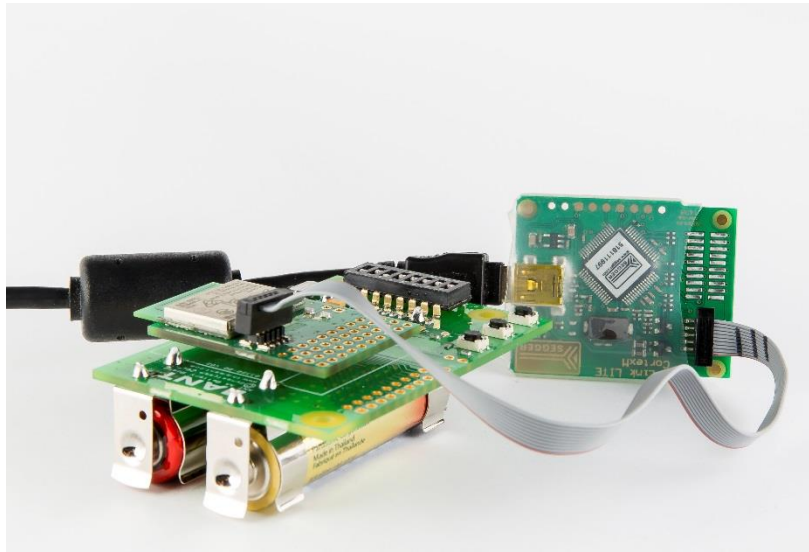

Figure 3. Module Programming Setup
3. Connect the Segger J-Link programmer to the programming header on the module. Turn the power switch to the ON position. The setup should look as in Figure 3.